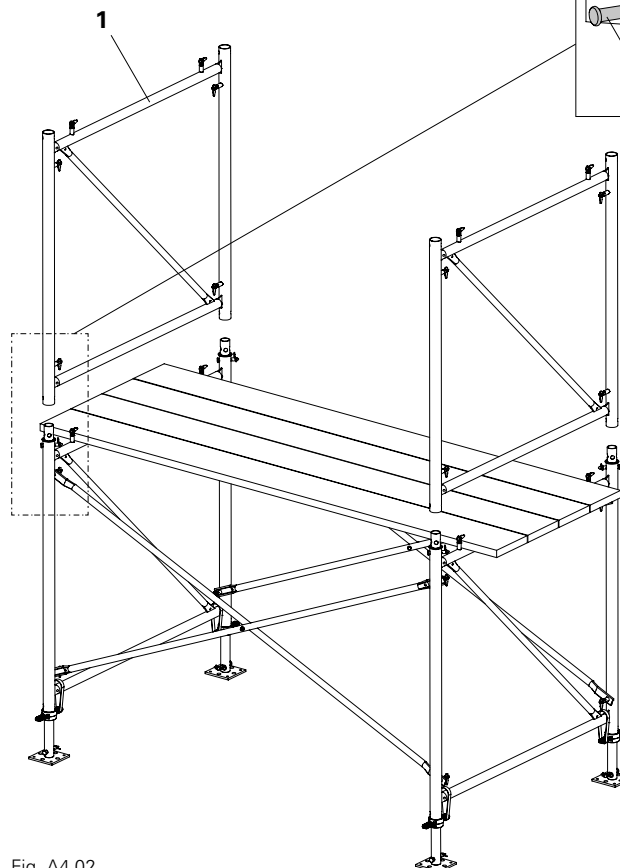

Fig. A4.02
2. Insert Frames PD 8 (1) into the connectors with washers (2) and secure them with bolts $\varnothing 16 \times 65/86$ (8) and cotter pins 4/1 (9). (Fig. A4.02 + A4.02a)